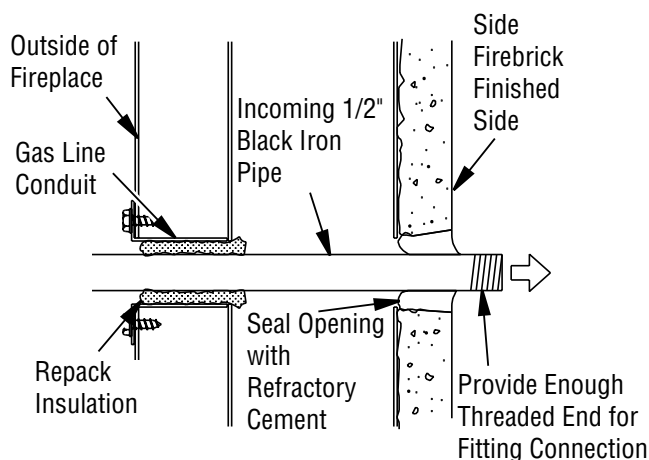

Figure 35 - Gas Line Installation
3. Run a 1/2" black iron gas line into fireplace through the rear at gas line conduit sleeve (if using a raised platform, add height). Provide sufficient gas line into fireplace chamber for fitting connection (see Figure 35).